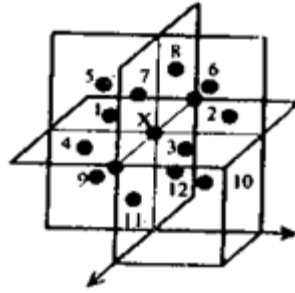

Fig 1.19
To calculate the coordination number, for FCC, let us consider a corner atom (X) as shown in Fig. 1.19